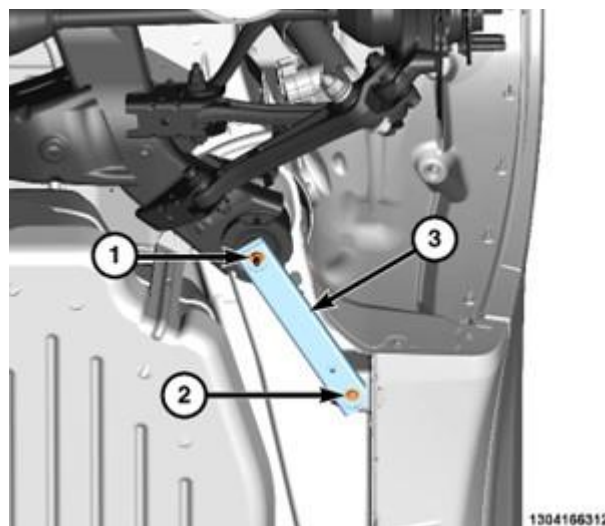

Figure 11 – Front Support Bracket
- 12. Remove the bolt (2) and nut (1) and remove the rear crossmember front support bracket (3) (Figure 11).
22. Install the rear crossmember front support bracket (3), bolt (2) and nut (1) and tighten to 20 N·m (15 ft. lbs.) (Figure 11).